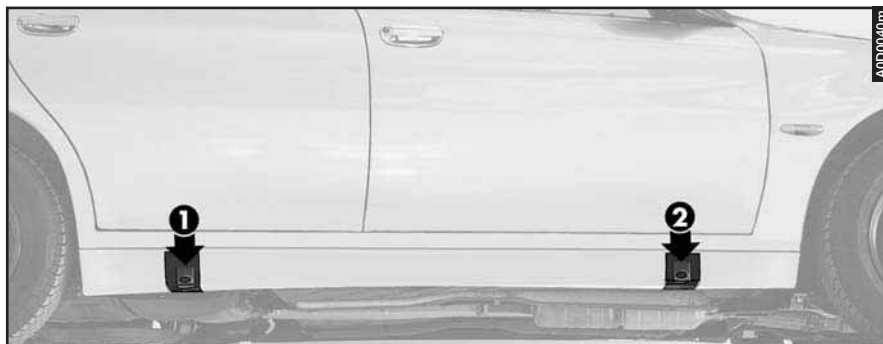

fig. 6
– Position the jack under the car next to the wheel to be replaced (**fig. 6**):